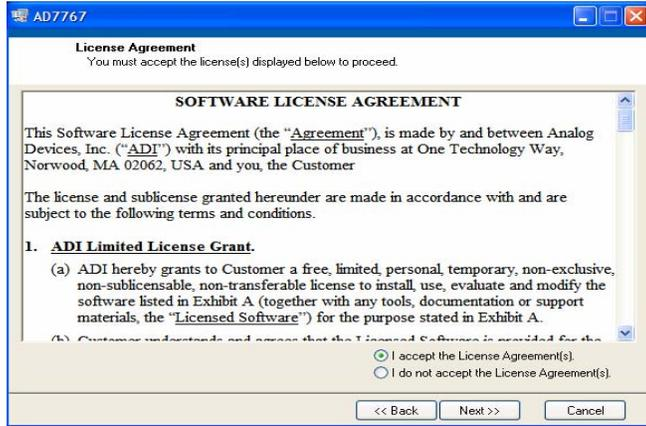

Figure 4. AD7766/-1/-2 Evaluation software install 3.
3) Accept the license agreement by selecting the correct option and clicking “Next” as shown in Figure 4.
5) On completion of the installation, the window as shown in figure 4 is displayed.